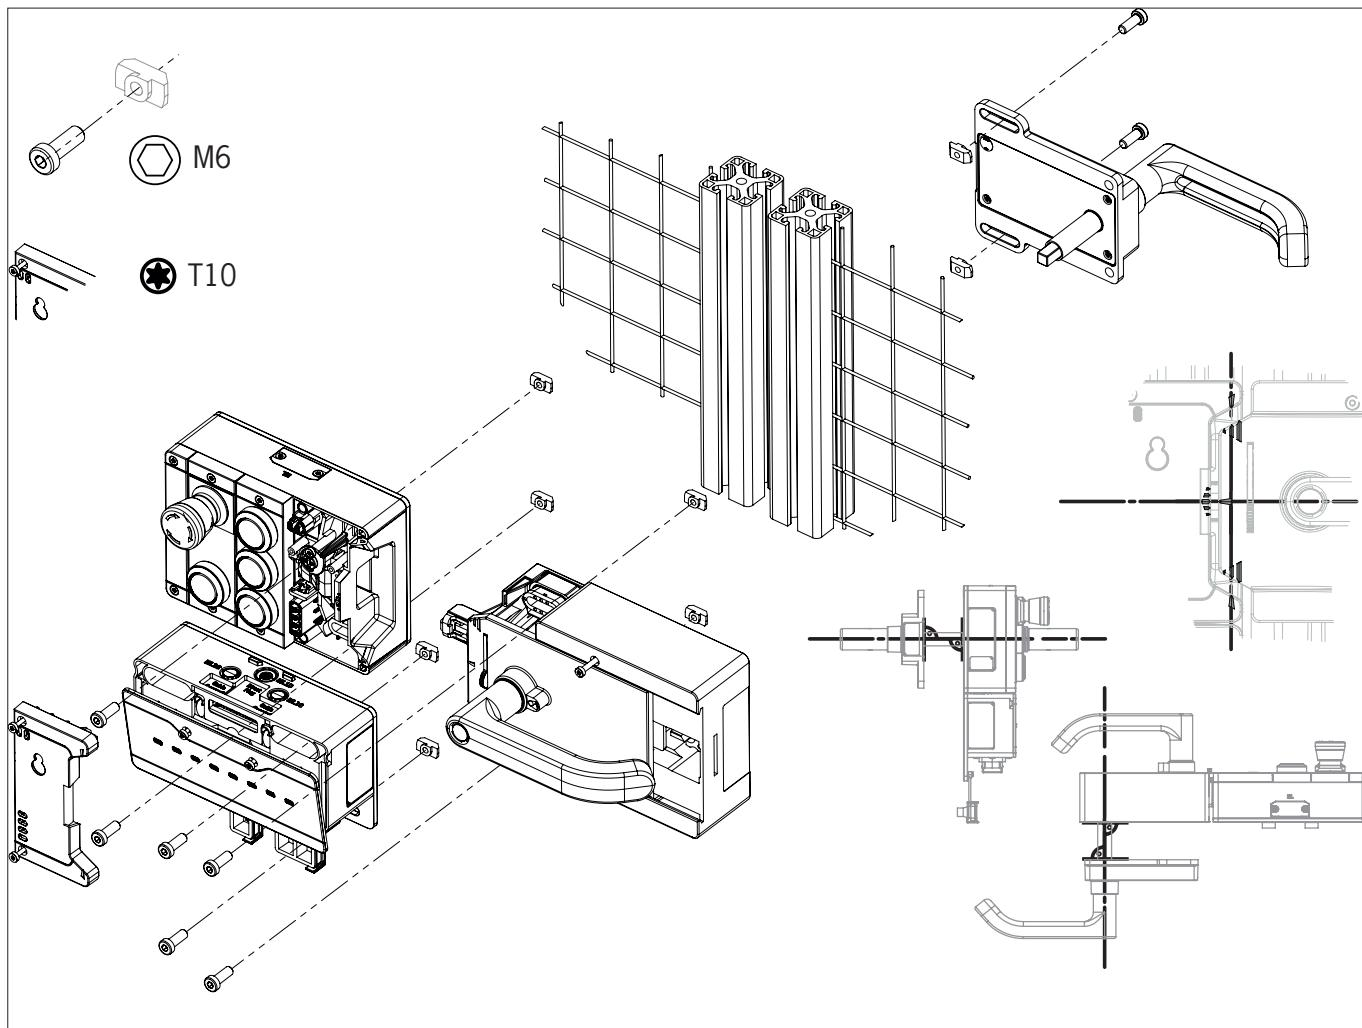
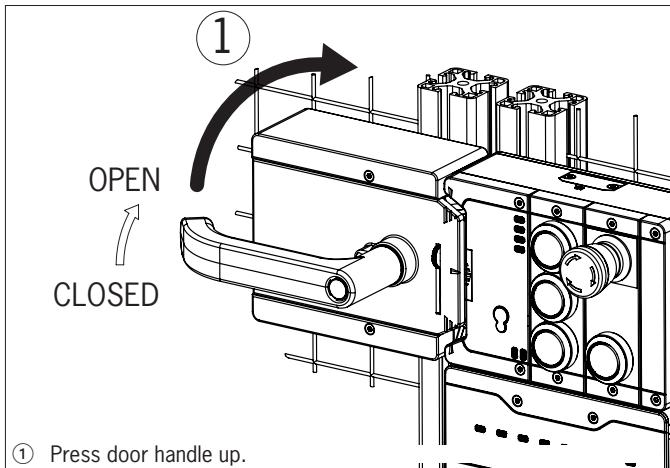

Figure 8: Installation example for door hinged on the right (general view)
Figure 10: Changing actuating direction, step ①
- Align escape release axis at right angles to the handle module. See Figure 8.
- During mounting, pay attention to correct alignment. Use the alignment aids on the housing for the interlocking/locking module and on the housing for the handle module (see *Figure 8*).
For mounting steps , see *Figure 8* and *Figure 10* to *Figure 15*.
- The system is mounted the other way up for doors hinged on the left. In other words, the guard opens by pressing up the door handle (see *Figure 10*). For this reason the actuating direction of the door handle must be changed (see *Figure 10* to *Figure 15*).